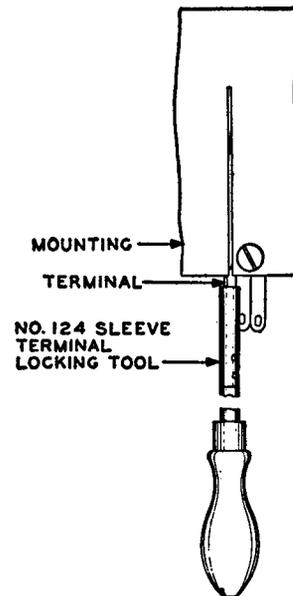

Fig. 9—Method of Locking Sleeve Terminal with No. 124 Sleeve Terminal Locking Tool
3.16 On the 49-type jack, twist that portion of the sleeve terminal extending in back of the mounting by applying the No. 124 sleeve terminal locking tool over the terminal as far as possible and holding the terminal down in the slot in the rubber mounting as shown in Fig. 9. Turn the locking tool 90 degrees in a counterclockwise direction.